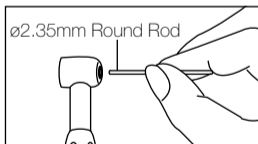

Fig. 8
- ④ Insert a $\varnothing 2.35\text{mm}$ round rod from the front of end. Push up the round rod, and cartridge and washer are removed from the top end of the head. (Fig. 8, 9)